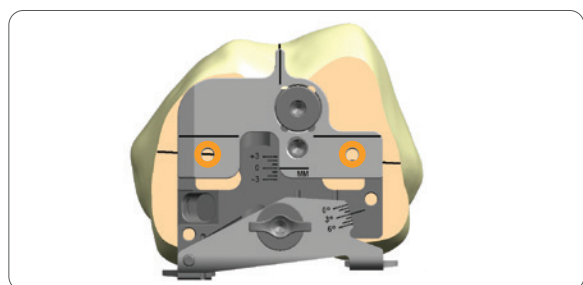

Figure 26
5. Once both the A/P and rotational measures are desirable relative to the anatomic landmarks, drill about a 1 inch (25mm) deep hole through each of the two holes in the drill guide (**Figure 26**).